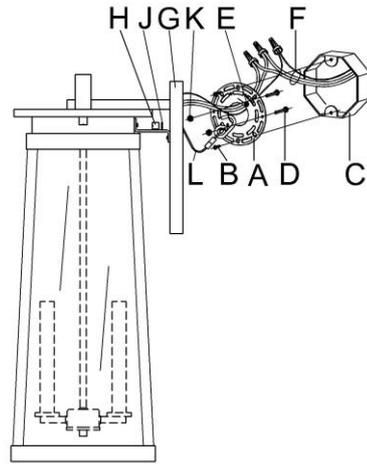

Fig.2
CONNECTING THE WIRES (Fig. 2)
5. Connect the electrical wires as shown in Fig.2. Make sure that all wire connectors are secured. If your outlet box (C) has a ground wire (green or bare copper), connect fixture's ground wire to it. Otherwise, connect fixture's ground wire directly to mounting plate (A) using green screw (E) provided.
6. Tuck the wire connectors neatly into outlet box (C).